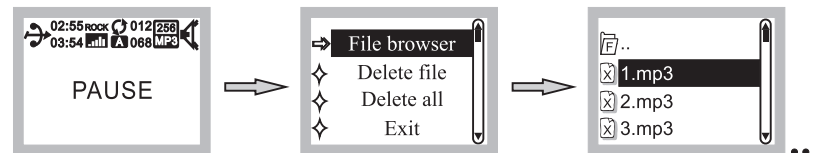

Fig. 23
- (1) File Browser: Press Parameter knob during playback and screen displays PAUSE. Press & hold to enter the directory option. Turn right or left to sequentially select the directory option, Fig. 23.